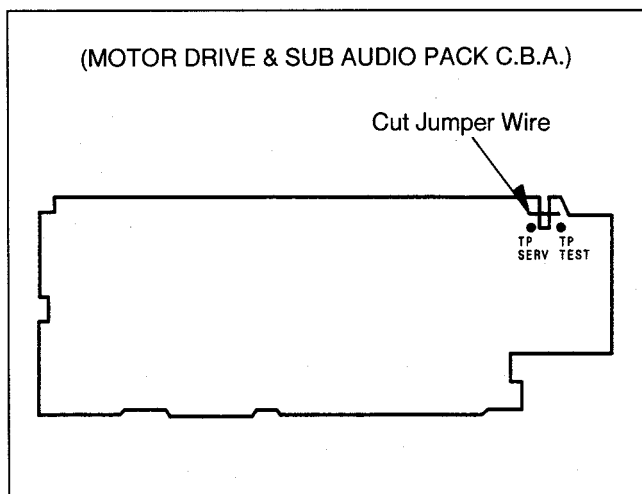

Fig. M1
- (1) Connect a jumper wire (K2501) which has been cut as shown in Fig. M1.